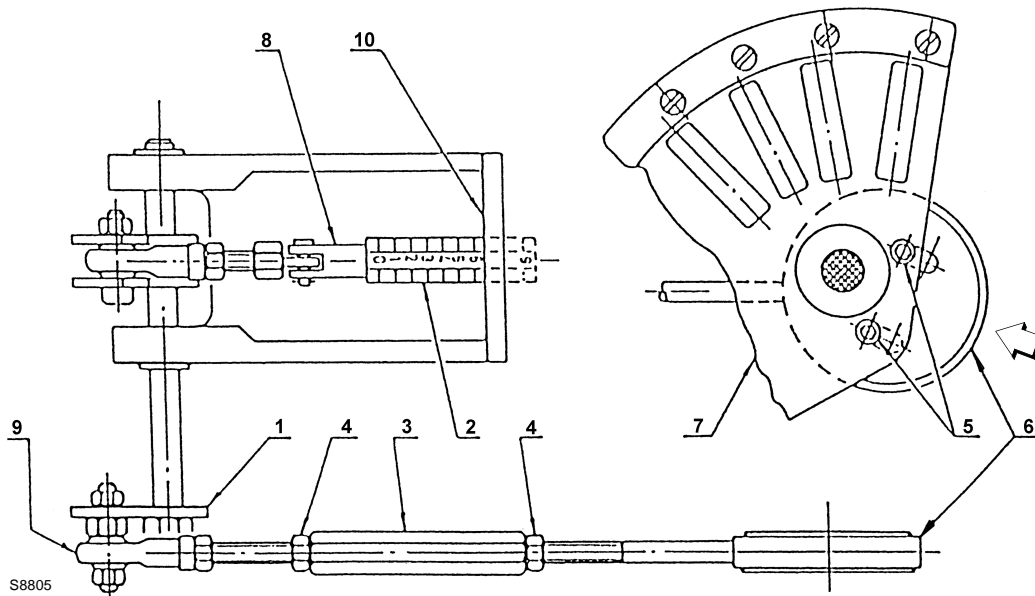

Fig. 15
Head position can be seen on cylinder 2)(Fig. 15).
2)(Fig. 15), to notch 9 with the servomotor at 130° and notch 0 with the servomotor at 0°.
- Having completed the adjustment, fully secure nuts 4) with ball-joint 9) positioned as shown in Fig. 15.